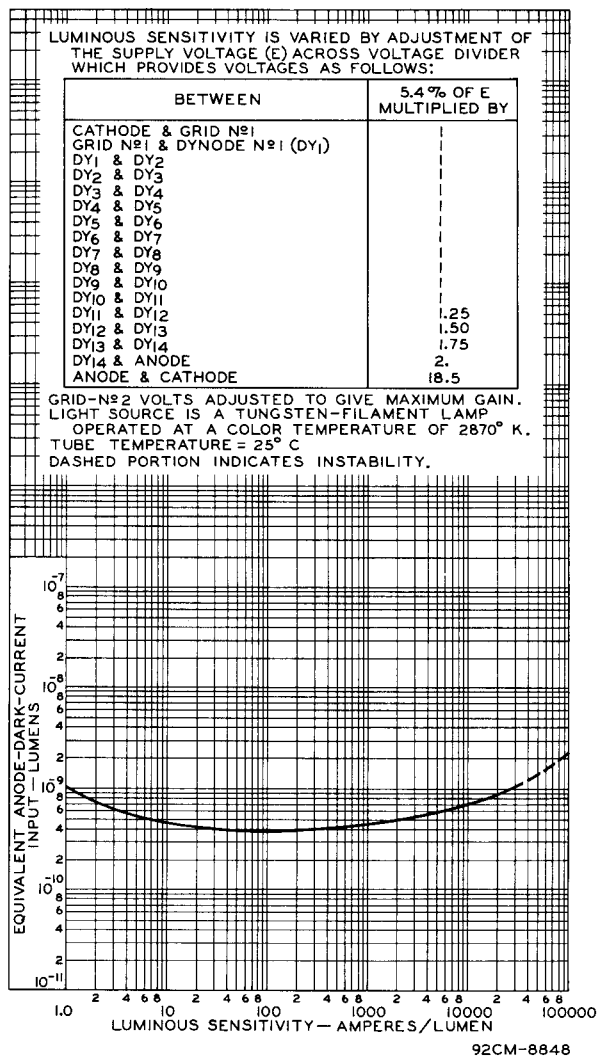
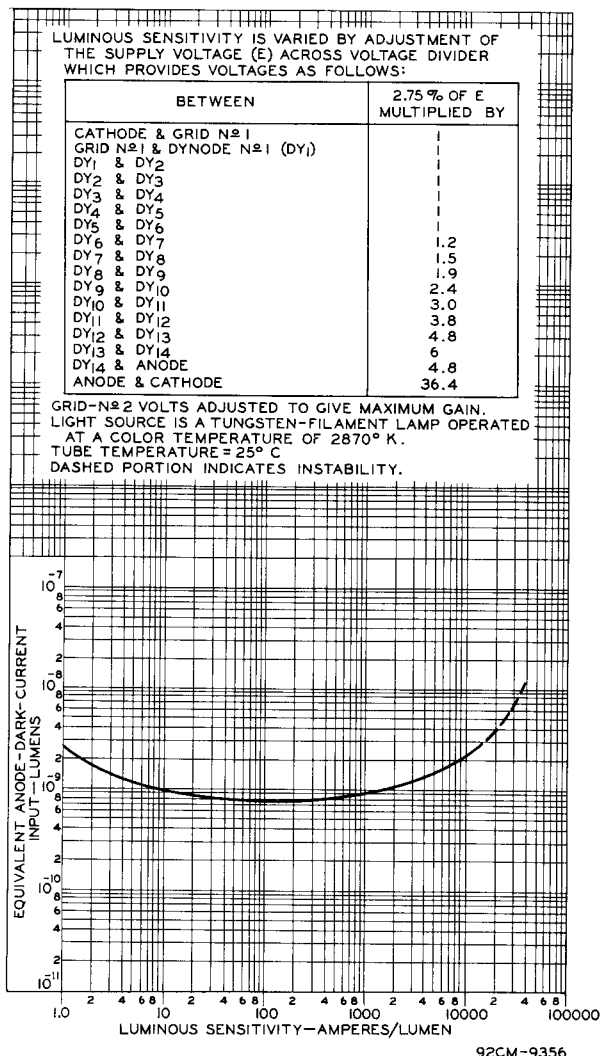

Fig.3 - Typical Anode-Dark-Current Characteristic of Type 7264 Used in Low-Light-Level, Low-Noise, High-Gain Service.
Fig. 5 - Typical Anode-Dark-Current Characteristic of Type 7264 Used in High-Output-Pulse Service.
When the application utilizes continuous luminous excitation and dc anode current, and it is desired to have a high ratio of signal output to dark current, it is recommended that the operating supply voltage (E) be determined with reference to the curve in Fig.3 or Fig.5 which shows the equivalent anode-dark-current input as a function